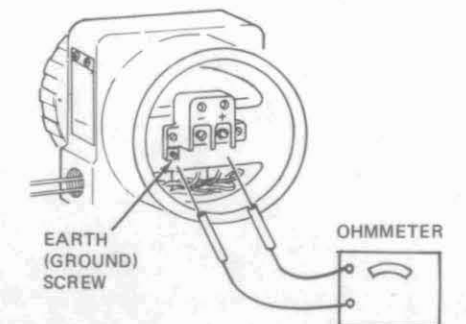

Figure 24
1. Disconnect blue and red leads at module. Use ohmmeter to check continuity between input terminals and ground, as shown in Figure 24.